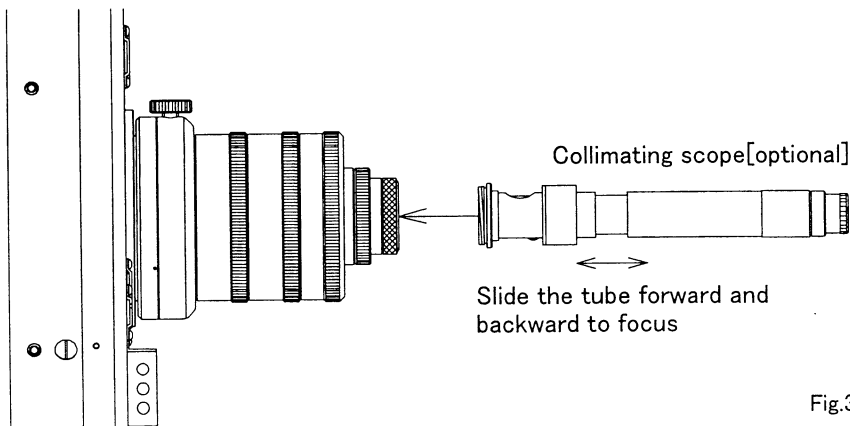

Fig.3
2. Focus the secondary, looking into the collimating scope. Refer to the fig.3. The fig. 4 shows the optical axis is collimated. As shown in the fig. 5, if the mark and the reflected image of the collimating scope are not seen as concentric, then collimation of the secondary is required. If they are seen as concentric, start the next step: collimation of the primary.